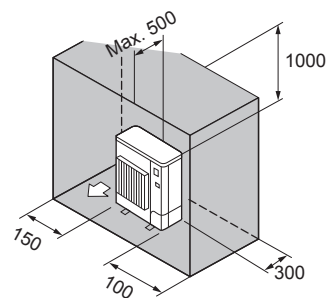

Fig. 3-11
- ⑥ Obstacles at rear, sides, and above only (Fig. 3-11)